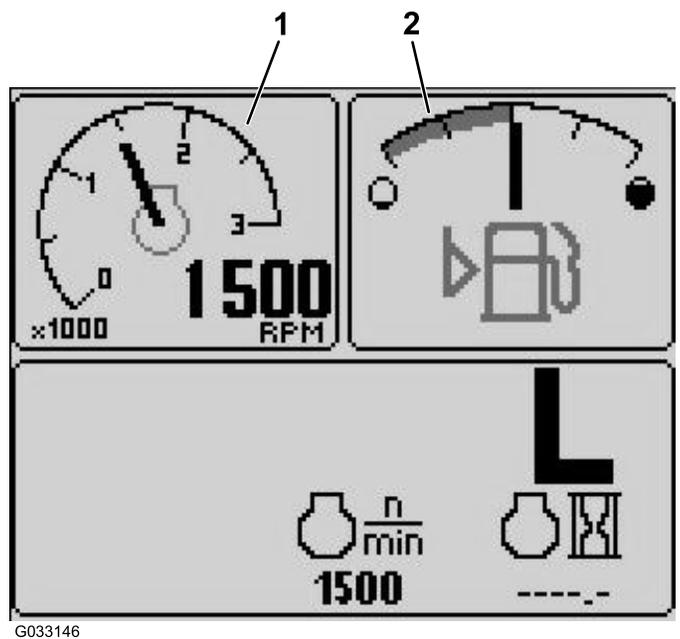

Figure 16
- Tachometer—top, left screen (Figure 16)
- Fuel-level indicator—top, right screen (Figure 16)
This display indicates the level of fuel in the tank (Figure 16).
This display shows the engine-operating speed in rpm (Figure 16).